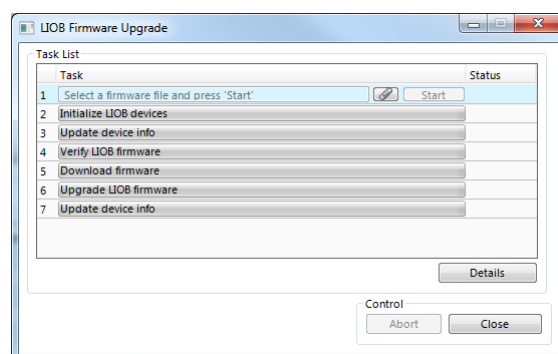

Figure 70: L-IOB Firmware Update dialog of the Configurator
3. This opens the Firmware Update dialog as shown in Figure 70. Click on the  button and select the L-IOB firmware image. Observe that LIOB-45x/55x devices need a different firmware than the other models.
3. This opens a Firmware Update dialog similar to Figure 70. Click on the  button and select the L-IOB firmware image. Observe that LIOB-45x/55x devices need a different firmware than the other models.
3. This opens the Firmware Update dialog, which will look similar to Figure 70. Click on the  button and select the L-IOB firmware image. Observe that LIOB-45x/55x devices need a different firmware than the other models.